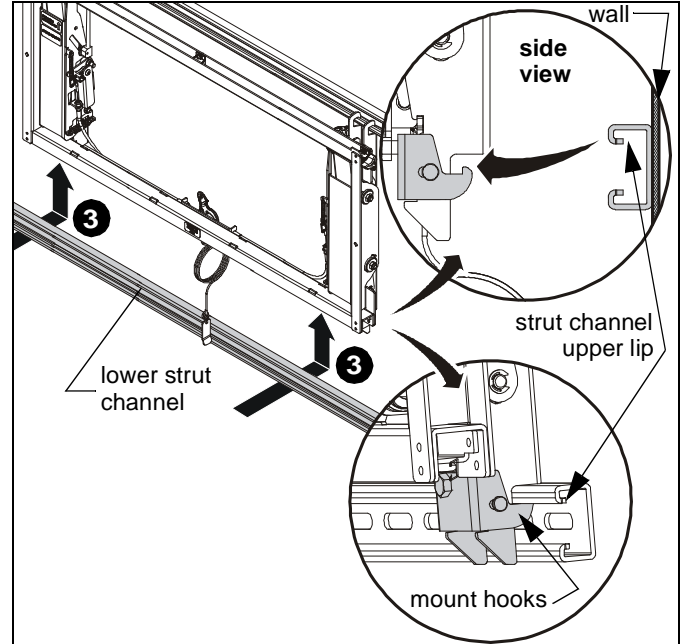

Figure 8
3. **LVXSUP only:** Add lower strut channel to bottom of all mounts in row by lifting strut channel up from below mounts and setting upper lip of strut channel onto mounts' latching hooks. (See Figure 8)
4. Tighten two hex head fasteners at bottom of each mount. (See Figure 8)